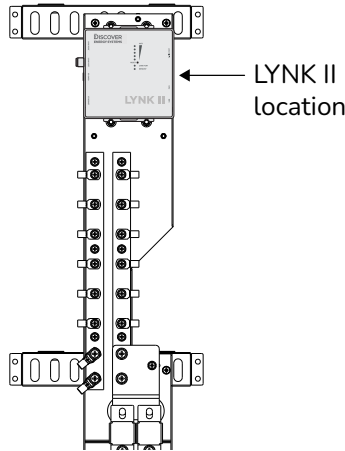

Figure 17. Attach LYNK II to Busbar Mounting Assembly
- If using a LYNK II Gateway in the system, attach it to the busbar mounting assembly as shown in Figure 17.